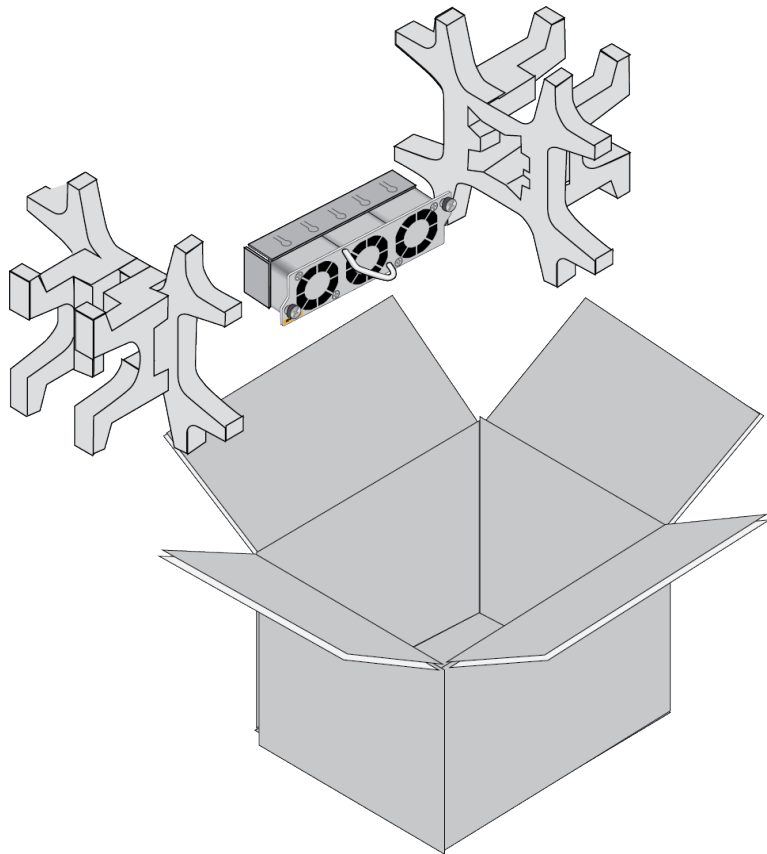

Figure 142. Removing the Fan Module from the Shipping Container
1. Remove the new fan module from its shipping box. Refer to Figure 142.